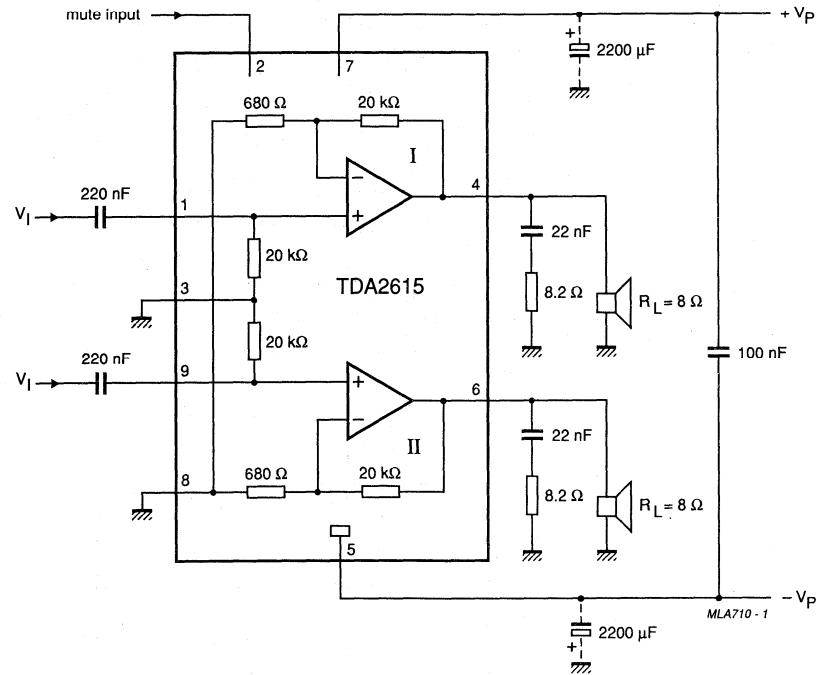

Fig.4 Test and application circuit with symmetrical power supply.
- $V_p = \pm 12 \text{ V}$; $R_L = 8 \Omega$; $T_{amb} = 25^\circ\text{C}$; $f = 1 \text{ kHz}$; symmetrical power supply $I_{MUTE} < 30 \mu\text{A}$. See Fig.4
- $\pm V_p = 4 \text{ V}$; $R_L = 8 \Omega$; $T_{amb} = 25^\circ\text{C}$; $f = 1 \text{ kHz}$; symmetrical power supply. See Fig.4